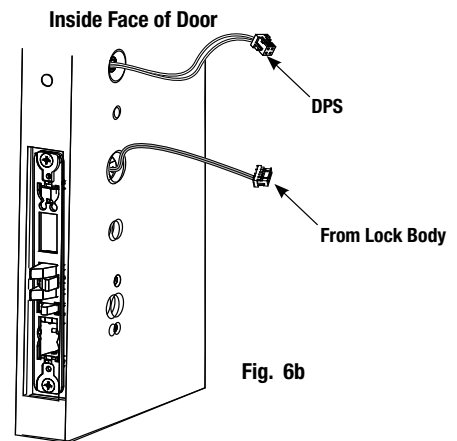

Fig. 6b
- Pull wires through hole while inserting lock body. DO NOT push wires back into cylinder hole (Fig. 6b).